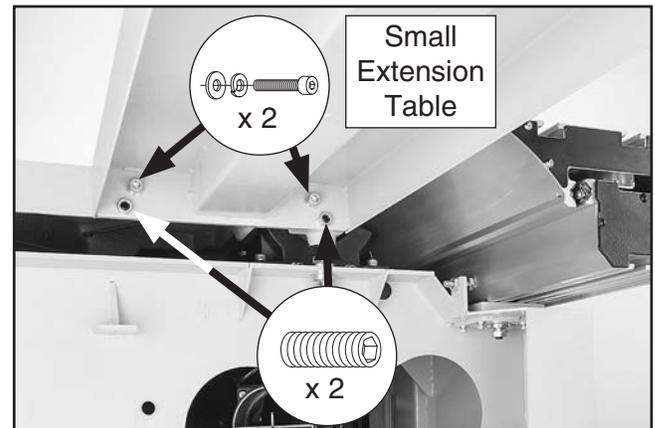

Figure 24. Small extension table attached to cabinet.
- Attach small extension table to cast-iron table with (2) M10-1.5 x 25 cap screws, (2) 10mm flat washers and (2) 10mm lock washers (see **Figure 24**). Finger-tighten for now.
- Thread (2) M10-1.5 x 20 set screws with (2) M10-1.5 hex nuts where shown in **Figure 24**.
- If both tables are *not* parallel with straight-edge, loosen hex nuts on set screws shown in **Figure 24**. Adjust set screws to align top of small extension table with top of cast-iron table, then retighten hex nuts to secure setting.